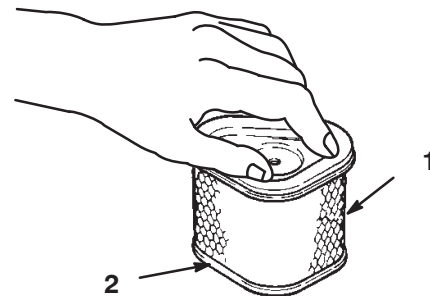

Figure 18
1. Inspect the element for tears, an oily film, and damage to the rubber seal (Fig. 18).